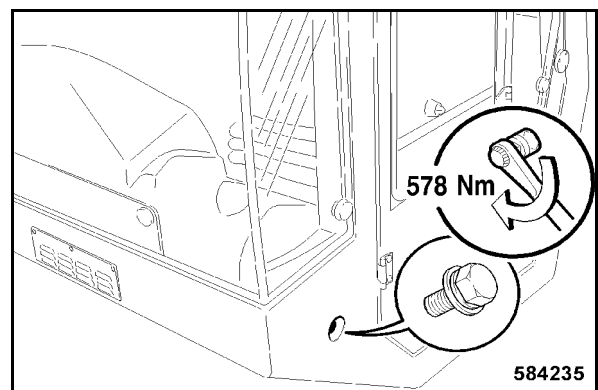

Fig. 220
- Tighten the front lateral fastening screw on the left hand side with 578 Nm (Fig. 220).